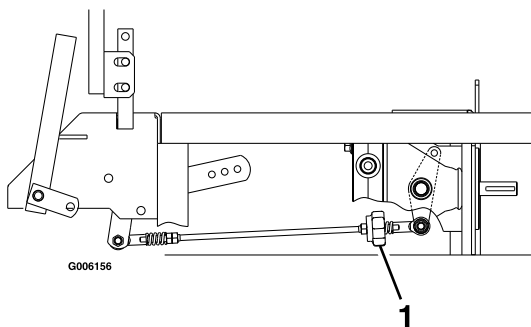

Figure 28
9. Bring the LH motion control lever into the neutral position. Adjust the LH pump control rod length by rotating the tracking adjustment knob in the appropriate direction until the wheels slightly creep in reverse. Move the motion control lever to the reverse position and while applying slight pressure to the lever allow the reverse indicator spring to bring the levers back to neutral. The wheel must stop turning or slightly creep in reverse (Figure 28).